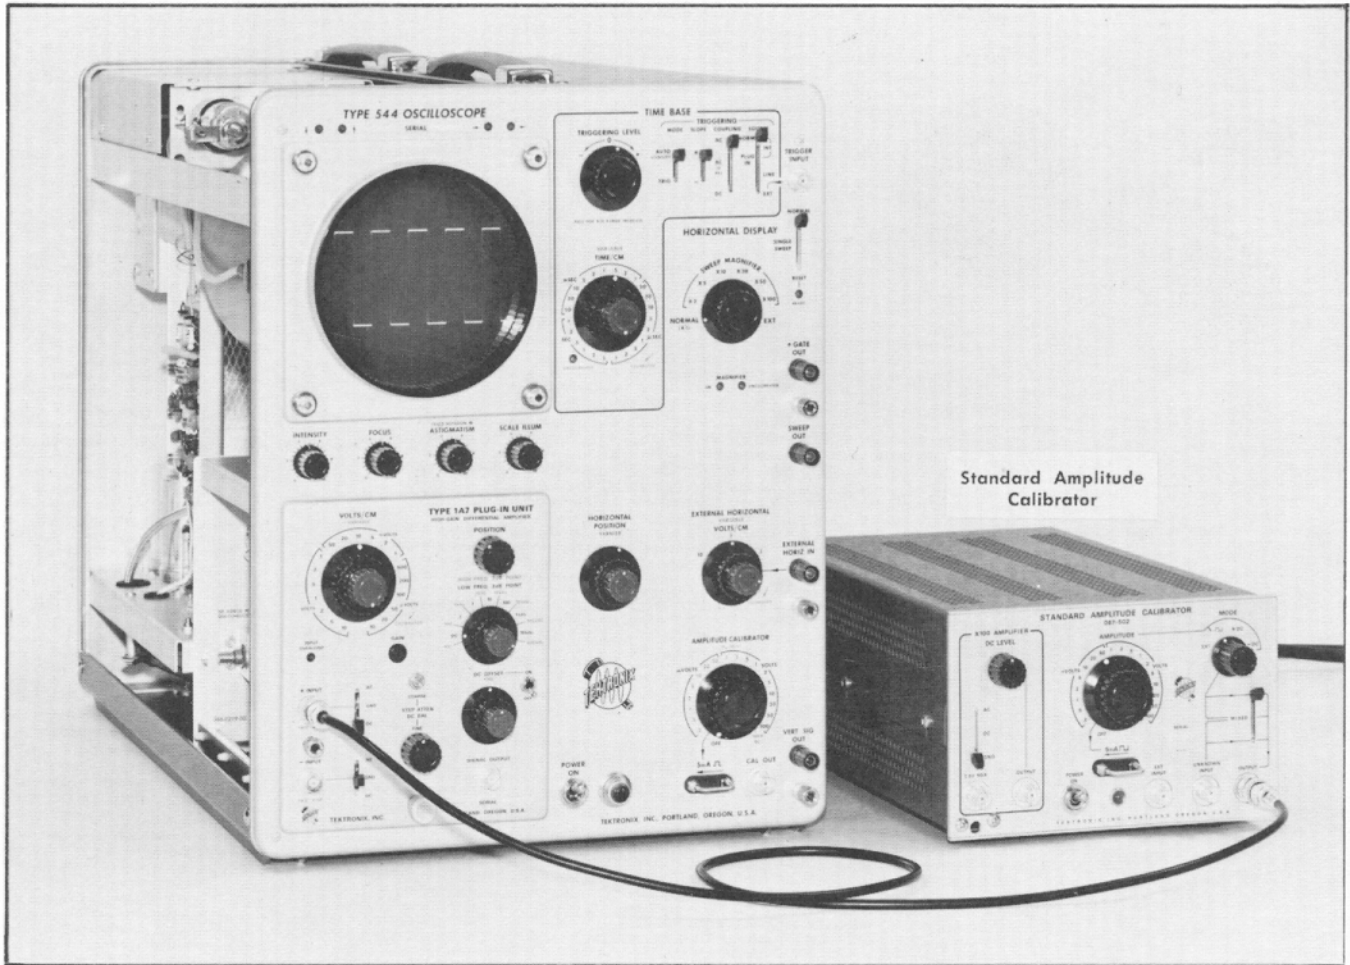

Fig. 6-8. Setup at completion of step 4b.
①
b. Apply a 50 mV peak-to-peak square-wave signal from a standard amplitude calibrator through a coaxial cable to the +INPUT connector. Fig. 6-8 shows the setup.